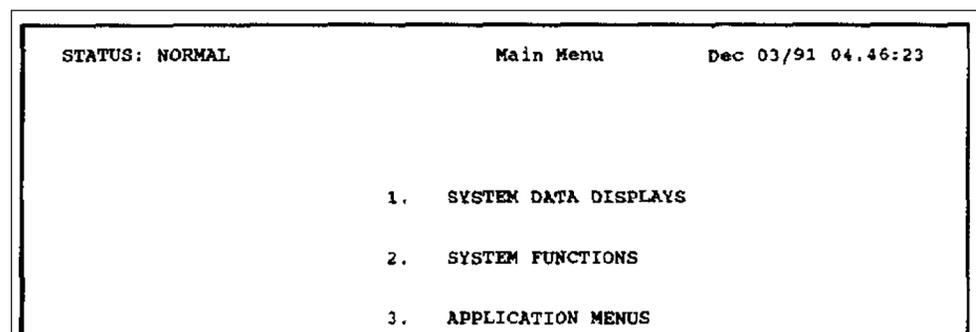

Figure 24. The *Main Menu* screen.
STEP 19. At the **ENTER USER NAME:** prompt, type “westronic” and press the <ENTER> key. At the **PASSWORD:** prompt, type “rd” and press the <ENTER> key. The *Main Menu* screen for the Wesdac D20 system will open. See Figure 24.